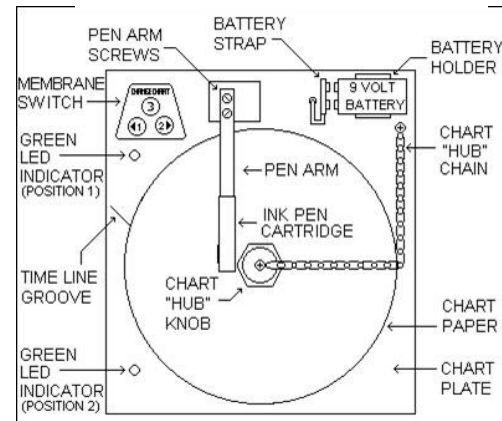

Fig.2: Chart Plate
4. To remove the chart paper, unscrew the chart "hub" knob at the center of the chart (fig. 2).
6. Position a new chart paper onto the hub, and ensure the correct time line coincides with the time line groove on the chart plate (fig. 2).